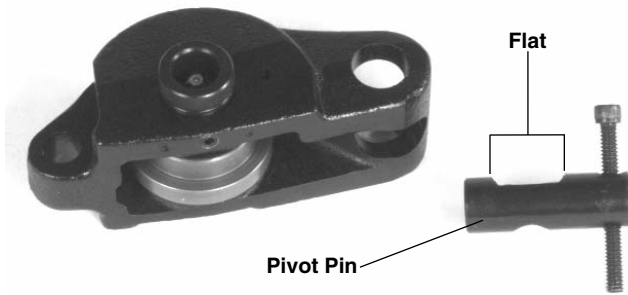

Figure 19 – Pivot Pin Position
8. Install the pivot pin into the copper reaction arm making sure the flat is in the "up" position so that it will accept the thrust washer and the head of the feedscrew (Figure 19).